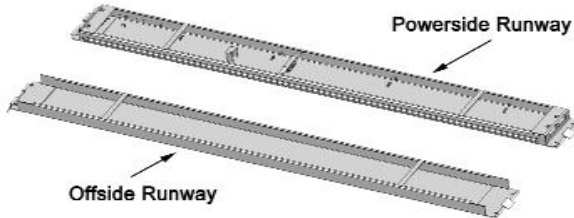

Fig. 5.1
1. Locate the powerside runway easily identified by the cylinder and sheave roller mounting structures welded on the underside. The powerside runway will be positioned on the side of the lift where the power unit is installed. (See Fig. 5.1)